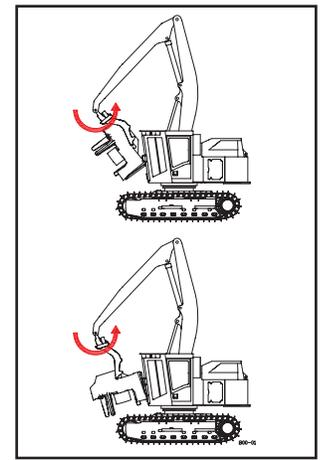

Figure 2. Harvester head swinging
2. Never bring the harvesting head in close to the machine while the harvesting head is swinging on the end of the stick boom. (See Figure 2)